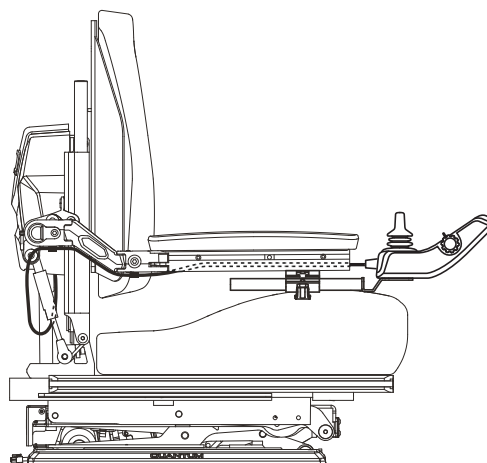

Figure 6. Controller Harness Routing on a TRU-Balance 3
4. Install the controller and route the harness to the back of the power base. See figure 6 or 7.